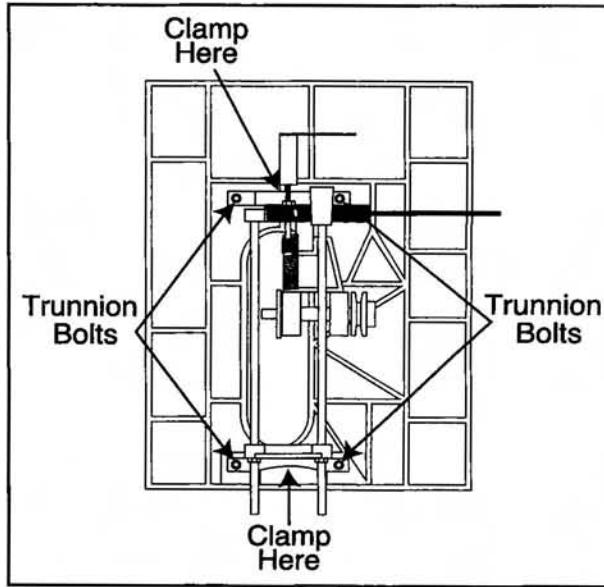

Figure 38.
5. Remove the handwheels and the sheet metal body. The four trunnion bolts can now be loosened. **Figure 38.** This will allow the trunnion assembly to be shifted to change the alignment between the blade and miter slot. To maintain trunnion assembly as one unit, place a bar clamp across the entire trunnion assembly.